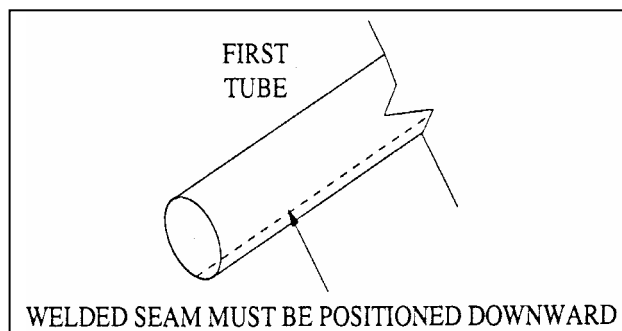
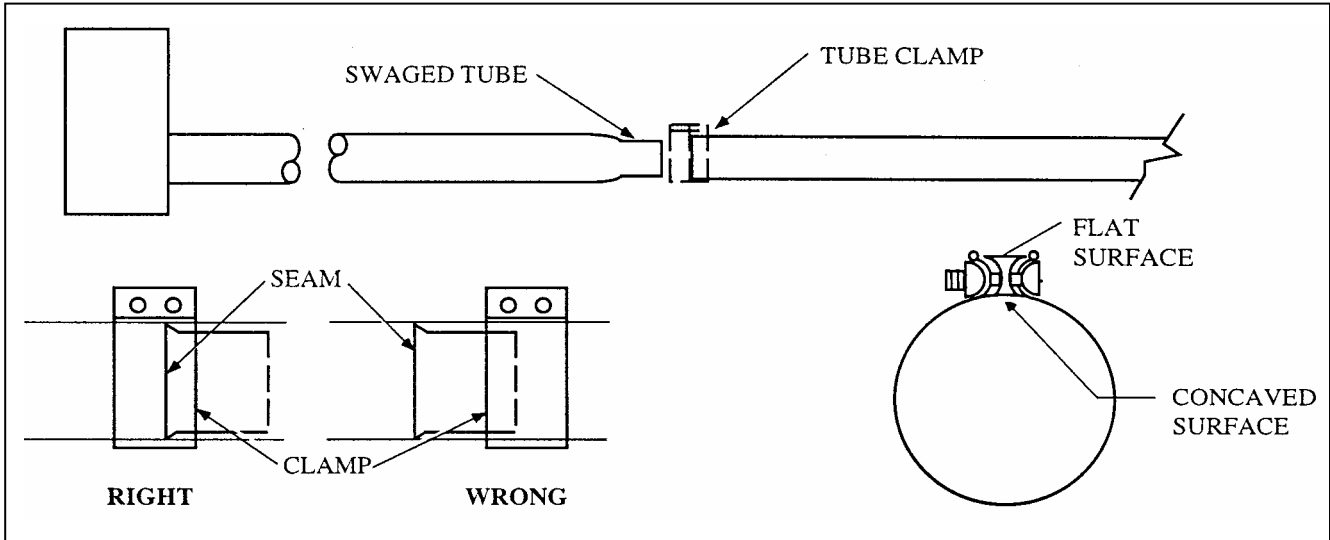

Figure 2-7
Figure 2-8
3. Mount hangers on approximately 10-ft. centers. Slide tubes through hangers with weld seam downward (see Figure 2-7) and fasten with tube clamps (see Figure 2-8). Center clamps on seams.
NOTE: The tube clamps provided with the heater are pre-assembled at the factory. If a clamp is dismantled, it is important that upon reassembly the spacer is properly inserted (see Figure 2-8). The spacer's concave surface **must** face the radiant tube. Incorrect spacer placement will result in shearing of the bolt when torqued to the recommended specifications (40-60-lb. ft.).